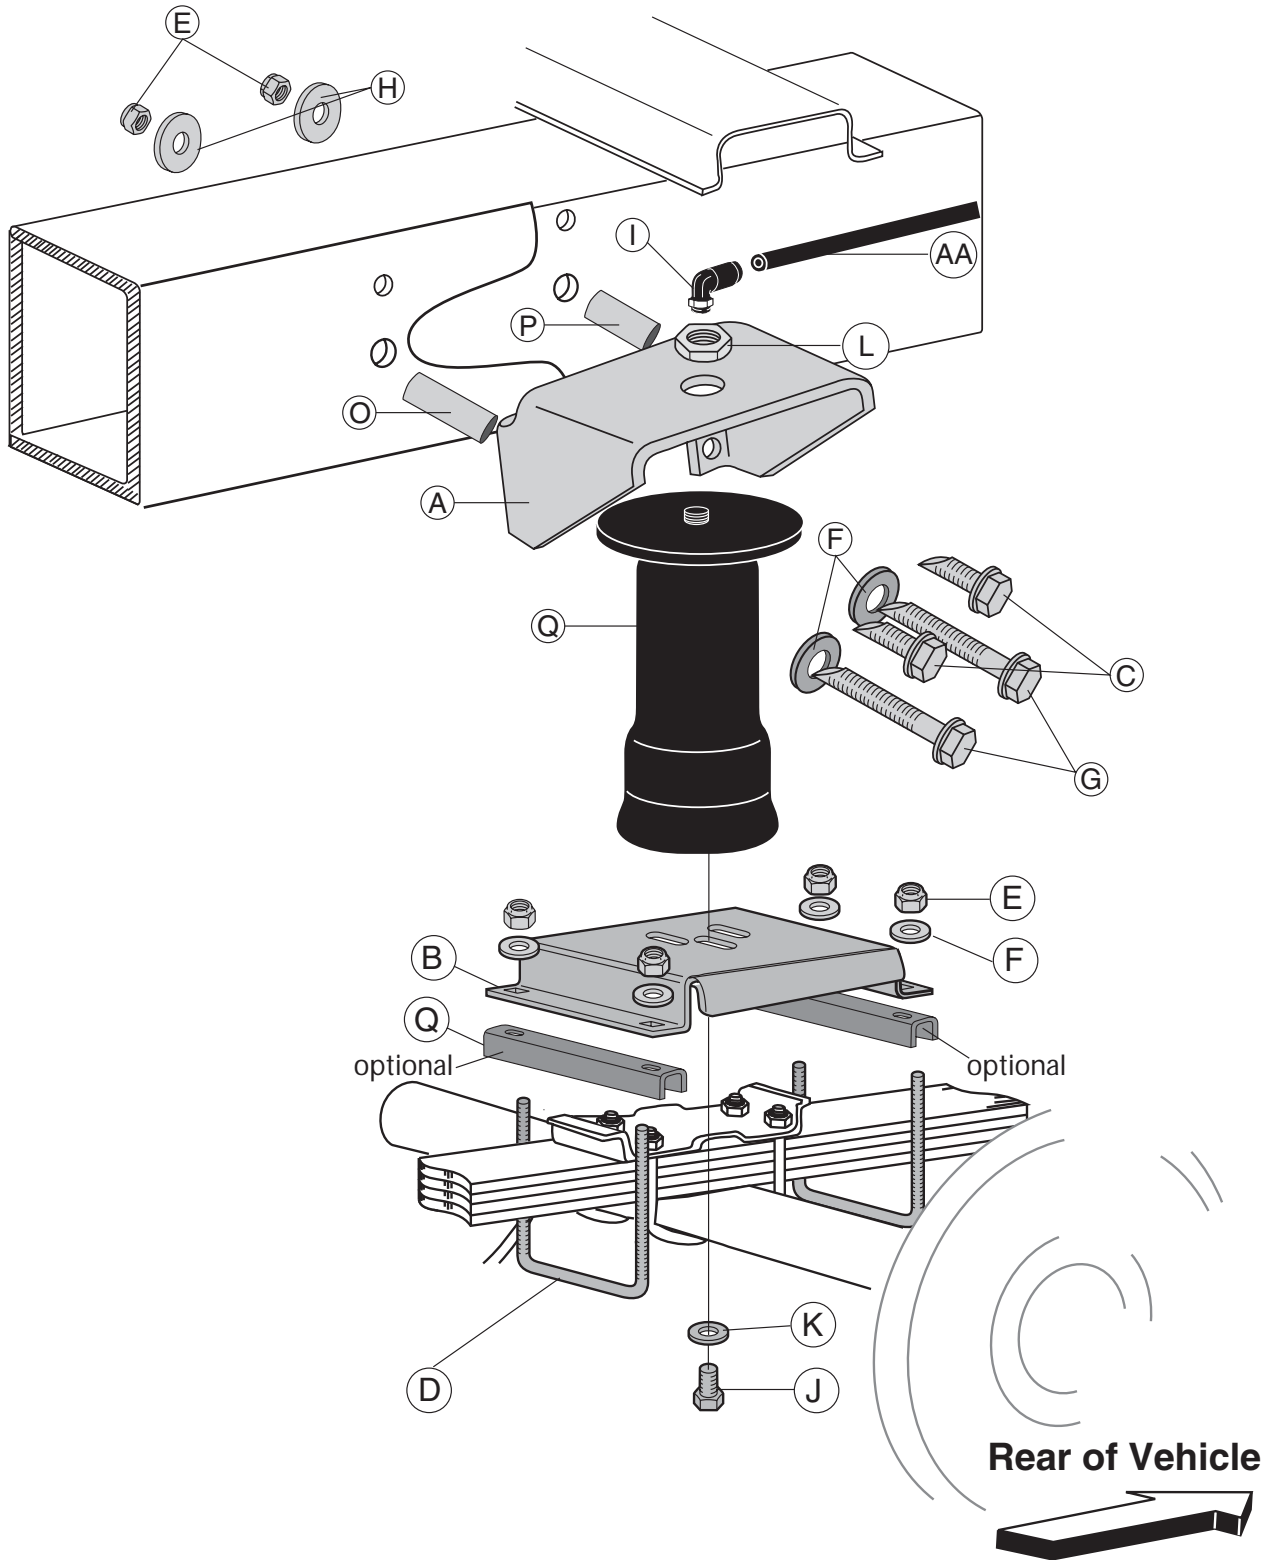

Figure 1
(* not shown in Figure 1)
2. Use the optional spacers (Q) for spacing the lower bracket up if the lower bracket hits on the stock U-bolts (Figure 1).
NOTE: The front leg of the upper bracket will mount on the raised front portion of the frame and the back leg of the upper bracket will mount on the recessed, rear portion of the frame (Figure 1).
5. The previously drilled 3/8" holes on the outside portion of the frame will need to be drilled out to 1/2" to provide enough room for the frame inserts to be installed into the frame (Figure 1).
6. Attach the upper bracket by inserting two 3/8 - 16 x 4" bolts (with flat washers) through the lower holes in the bracket. Install the long frame insert (O) on the front lower bolt. Install the shorter insert (P) onto the rear lower bolt (Figure 1).
1. Install 90 degree air swivel fitting (I) to the top of the air spring (Q) (Figure 1). Use a $\frac{7}{16}$ " open end wrench being careful to tighten on the metal hex nut only. Tighten 1 and $\frac{1}{2}$ turns. Do not over tighten.
2. Guide the fitting through the center mounting hole in the upper bracket (Figure 1).
3. Attach the air spring to the lower bracket using flat washer (K) and bolt (J). Leave loose for later adjustment.